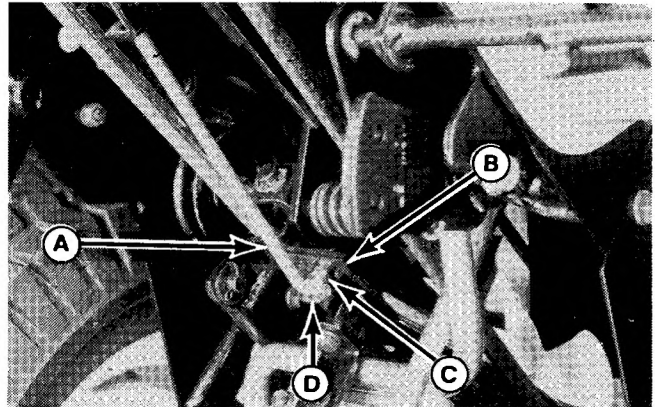

Figure 35.
9. Remove cotter pin holding neutral return rod (A, Figure 35) and washer to bracket (B). Discard washer and cotter pin. Install bottom nut (C) onto pin (D)